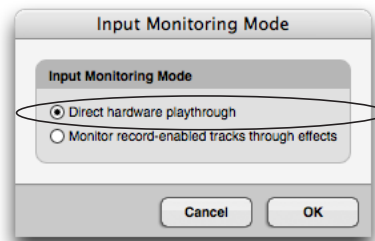

Figure 10-7: Enabling CueMix FX in AudioDesk or Digital Performer.
- 2 Choose the *Direct hardware playthrough* option, as shown below in Figure 10-7.